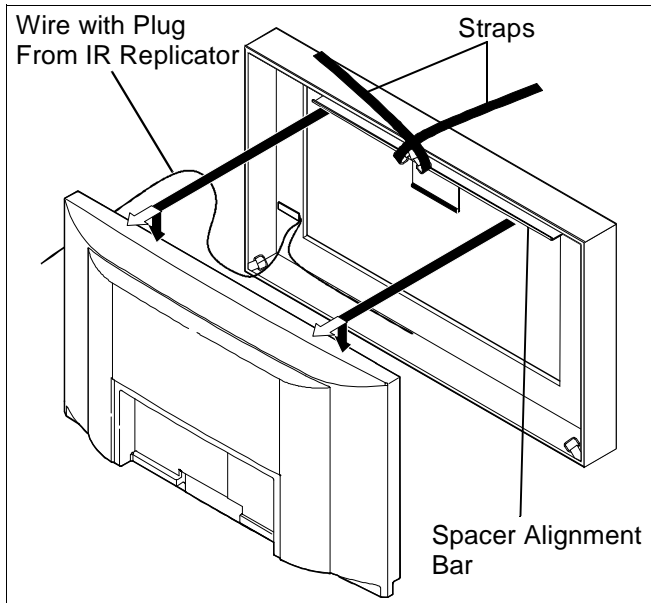

Figure 8
14. Secure IR Replicator to inside of frame by pressing adhesive back on IR Replicator against frame. (See Figure 8)
15. Pull straps on frame back over top of frame. (See Figure 8)
16. Align back side of frame with front of display. (See Figure 8)
17. Route wire from IR Replicator with plug out of frame at lower corner. (See Figure 8)